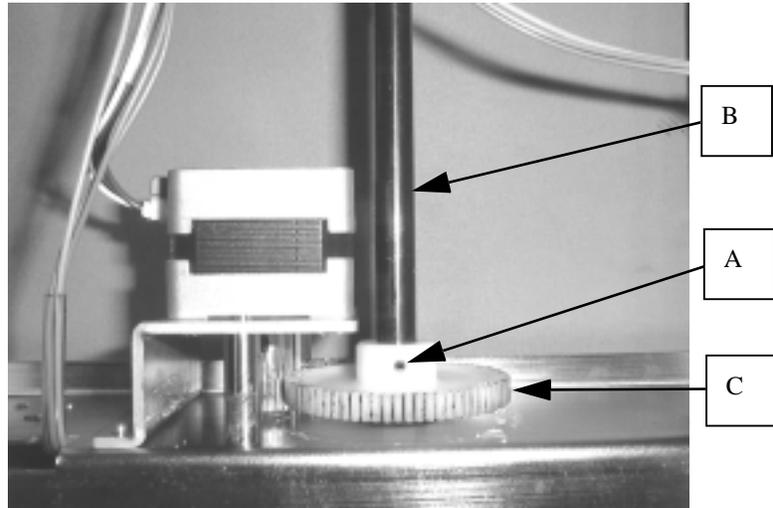

FIGURE 16-1
1. Perform steps (1)-(3) in par.13.
2. Draw spring pin (A) shown in Fig.16-1 out of the shaft (B) and gear (C).